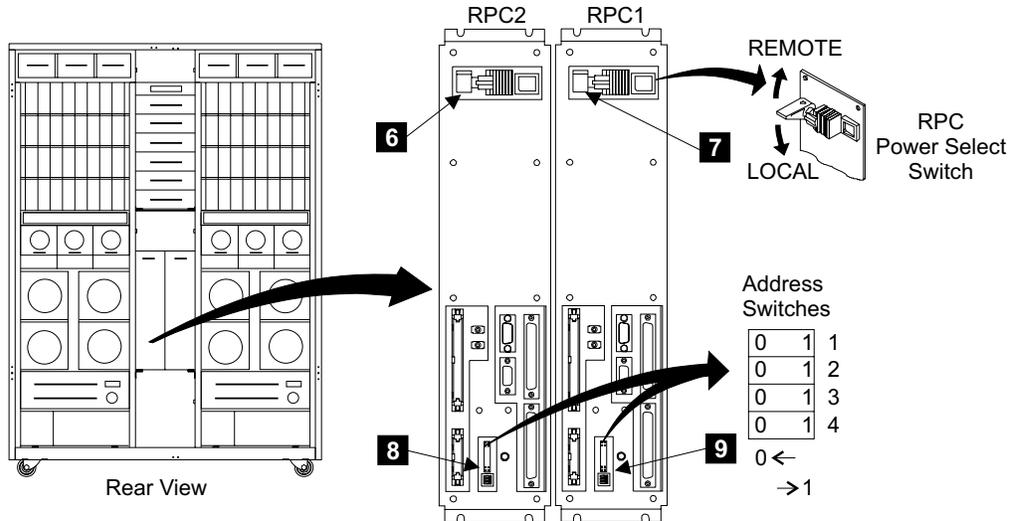

Figure 233. Rack Power Control Card Switch Locations (S008606m)
- ___ 6. Set the Power Select switch **6** [Figure 233] and **7** on each RPC card to the Local position (down).
- Cluster Bay 1, RPC-1 **9** [Figure 233]
- Cluster Bay 2, RPC-2 **8** [Figure 233]